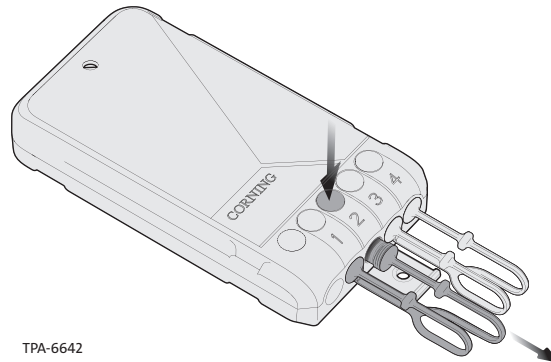

Figure 10
Step 1: Depress the button for the port and pull out the dust plug. Remove the dust cap from the connector. (Figure 10)